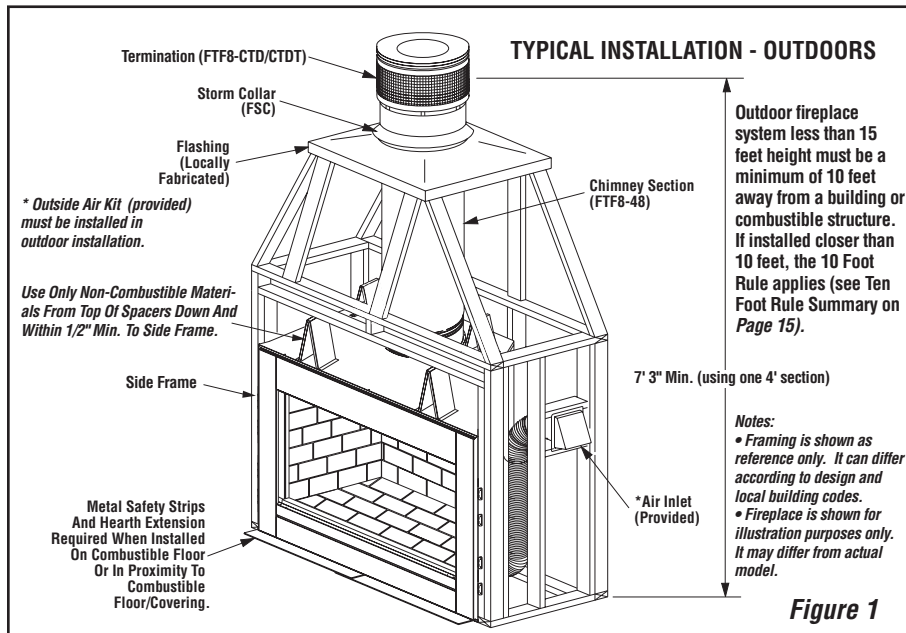

Figure 1
- The system height may be reduced to a single length of FTF8-48 pipe and termination with either the FTF8-CTD or FTF8-CTDT for a minimum height on a complete system of 7' 3." The fireplace must be installed as a Freestanding system and located a minimum of 10' away from any building or structure (refer to **Figure 1**).
- Only non-combustible materials are allowed on the front face (Front Fireplace Frame) and around the perimeter within 1-5/8" on the top and 1/2" on the sides (see **Figures 1, 51 & 52**).